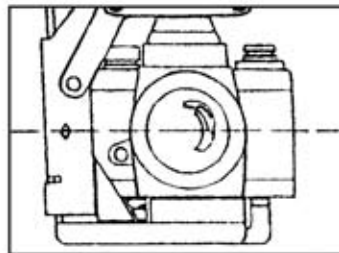

Figure 3:
The flash should be centered over the lens in both horizontal and vertical formats. With the camera in a horizontal position, loosen the screws, align the index mark "♦" (3) on the upright arm with the axis of your lens, and retighten the screws (Figure 3). This adjustment assures that your flash will be centered over the lens in the vertical position.